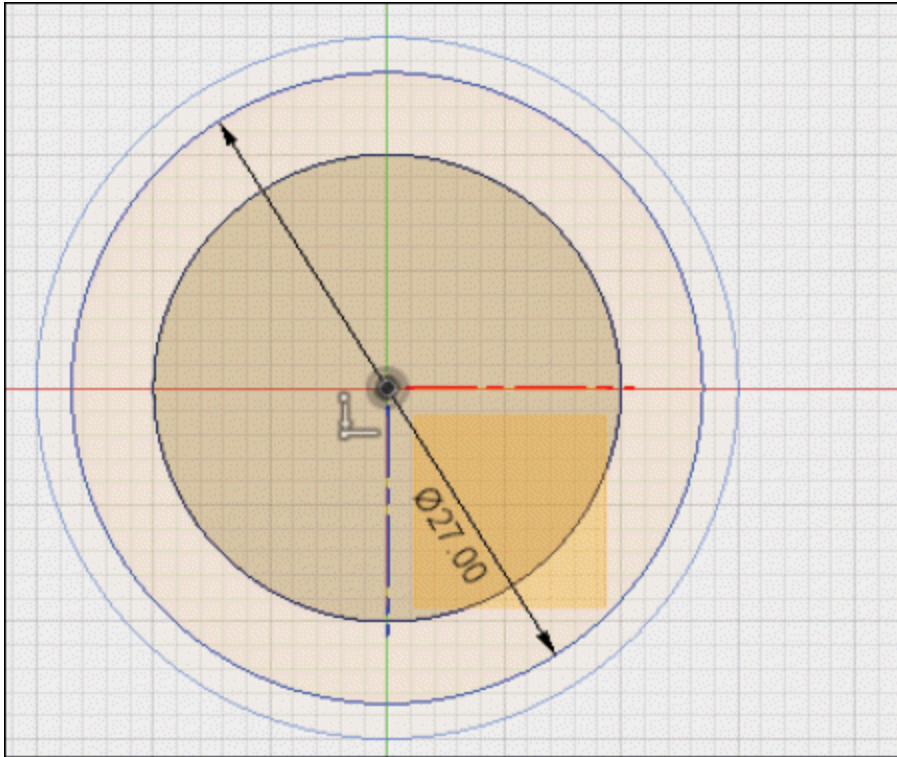

Figure-77. Creating third sketch
- Create the sketch as shown in Figure-77 on newly created offset plane.